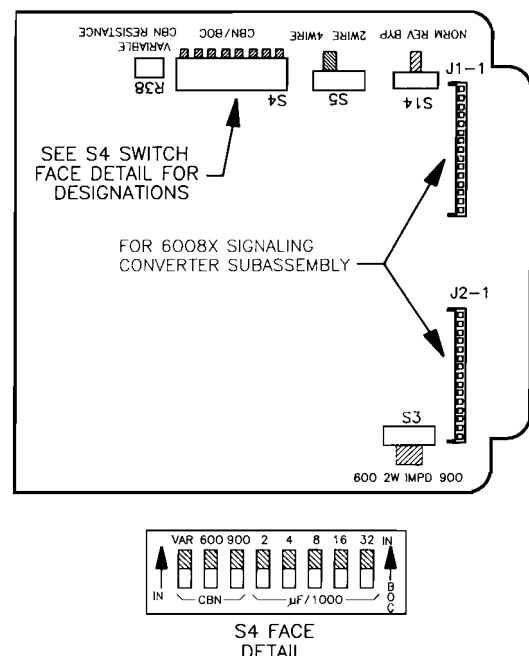

figure 2. 6132 option switch locations
3.05 All 6132 options are selected via slide or DIP switches. Locations of these switches on the module's printed circuit board are shown in figure 2. Table 3 gives a brief explanation of the function and settings of each option switch, along with a convenient optioning and alignment checklist. The checklist can be filled out (by checking the appropriate box for each switch) either prior to installation to allow for prescription optioning and alignment of the module, or as the module is being optioned and
3.10 In applications where an optional Tellabs 6008X Signaling Converter subassembly is to be used on the 6132, refer to figure 2 for the appropriate connector locations and install the subassembly as follows: